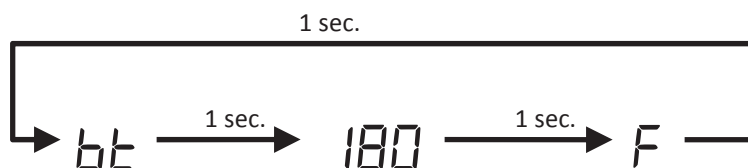

FIGURE 11.3: TYPICAL OPERATING MODE DISPLAY (BOILER TEMP SHOWN)
- 2) Operating Mode - Provides additional information about the current status of the boiler. Operating mode is entered by pressing the **I** button shown in Figure 11.0. When this button is first pressed in Status mode, the display will alternately display $b\text{E}$ and the current boiler water temperature as shown in Figure 11.3. Pressing the **I** button again will display the next line item shown in Table 11.2. In the same manner it is possible to advance through all of the “parameters” shown in Table 11.2. To return to Status mode, press **I** repeatedly until $5\text{E}9$ once again appears on the display. Alternatively, the control will return to Status mode if no key is touched for 30 minutes.
In operating mode, holding either the \uparrow or \downarrow button while viewing a given parameter will keep the display on the actual reading. For example, pressing \uparrow while reading boiler temperature as shown in Figure 11.3 will keep the display on 180 for as long as this button is held. This makes it easier to view readings “live” if they are changing rapidly